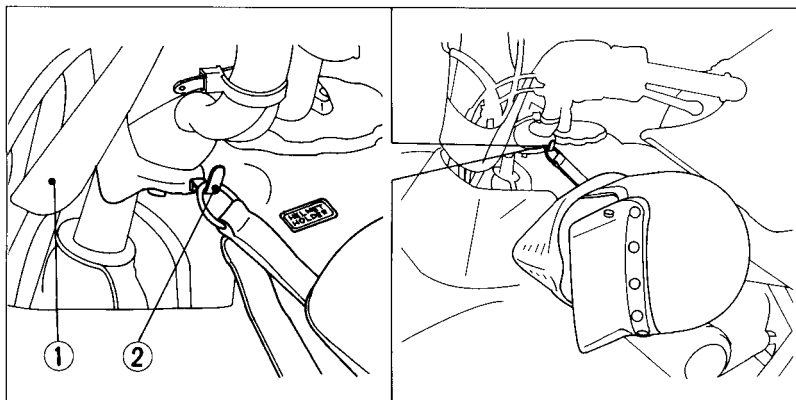

Fig. 2-17
The helmet holder (Fig. 2-17) is a bracket near the left side of the handlebar cover (1). To use the holder, hang the D-ring on your helmet strap over the bracket. Use the helmet holder only when the FOURTRAX is parked.